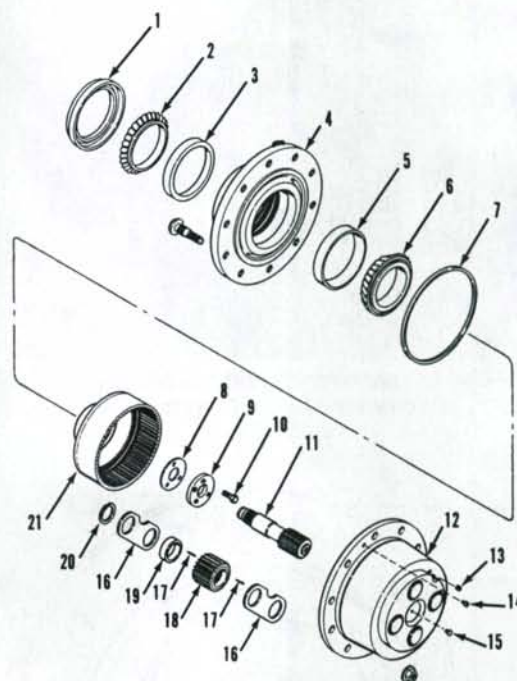

Fig. 6—Exploded view of wheel hub and planetary unit used on front drive axle.
9. R&R AND OVERHAUL. To remove the wheel hub and planetary, support axle housing and remove front wheel and tire assembly. Rotate wheel hub until drain plug (13—Fig. 6) is at bottom.
of 20 ft.-lbs. (27 N.m). Use a torque wrench and special tool CAS-1768 as shown in Fig. 7, to check rolling torque of hub. Tighten or loosen cap screws (10—Fig. 6) until rolling torque is 50-90 in.-lbs. (6-10 N.m). Then, using a depth micrometer through hole in retaining plate (9), measure distance from outer face of plate to end of pivot housing. See Fig. 8. Record this measurement. Remove retaining plate and measure thickness of the plate. Subtract this measurement from the first measurement. The difference will be the correct thickness of shim pack (8—Fig. 6) to be installed. Shims are available in thicknesses of 0.001, 0.002, 0.005, 0.010, 0.020 and 0.030 inch (0.0254, 0.0508, 0.127, 0.254, 0.508 and 0.762 mm). Remove sun gear (11), ring gear (21) and hub (4). Install new oil seal (1) in hub with lip facing away from bearing (2). Reinstall hub, ring gear, correct shim pack and retaining plate. Install cap screws (10) and tighten to a torque of 65-75 ft.-lbs. (88-102 N.m). Install sun gear (11) and new "O" ring (7). Align holes for socket head screws (14) and install planetary carrier (12). Install socket head screws (14) and tighten securely. Rotate hub until oil level arrow points downward. Remove plug (13) and fill planetary unit to level plug